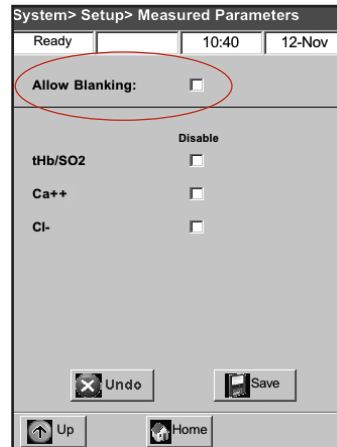

Figure H-11: System > Setup > Measured Parameters screen
4. Tap **Allow Blanking** (Figure H-11). Parameter blanking turns off the selected parameters and disables the measurement from occurring. It also allows you to prevent a measured parameter from appearing on a printed report after the measurement has occurred.